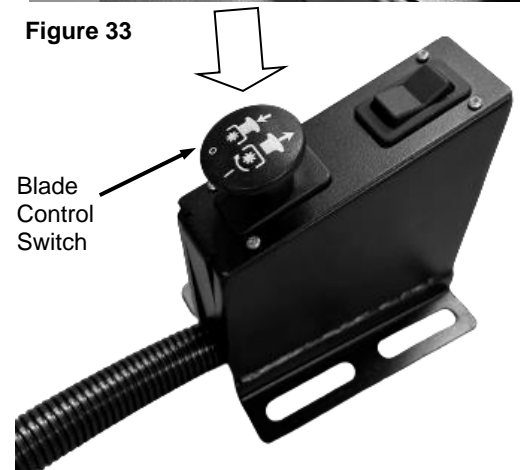

Figure 34
1. Ensure Blade Control Switch is pushed down (**Figure 34**).